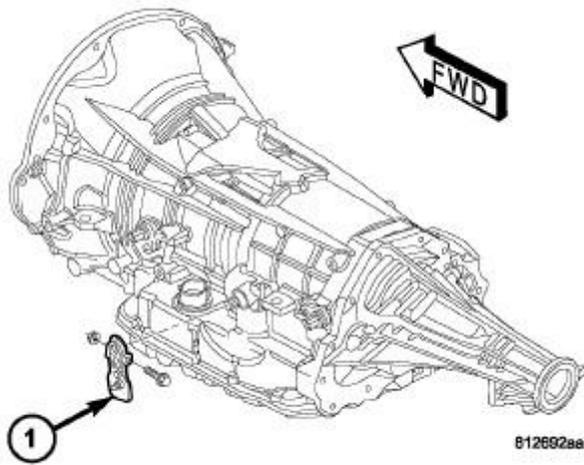

Fig. 42: Identifying Manual Shaft Lever
4. Remove the manual shift lever (1) from the transmission. Refer to **Fig. 42**.